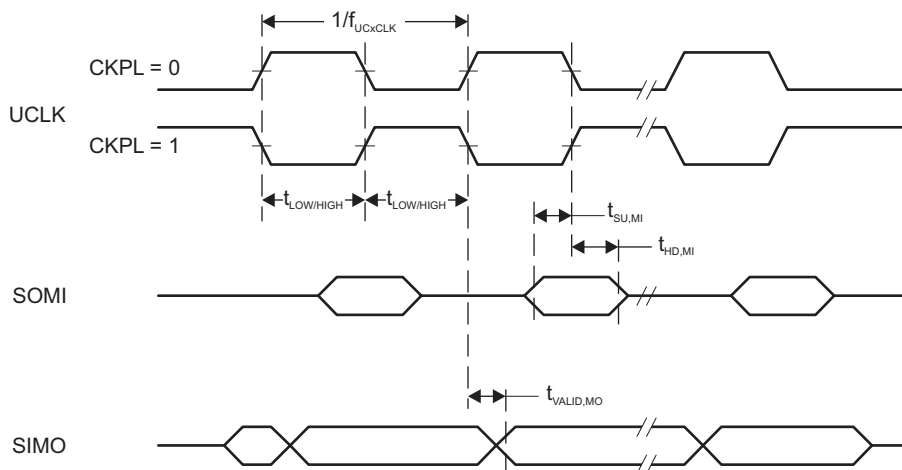
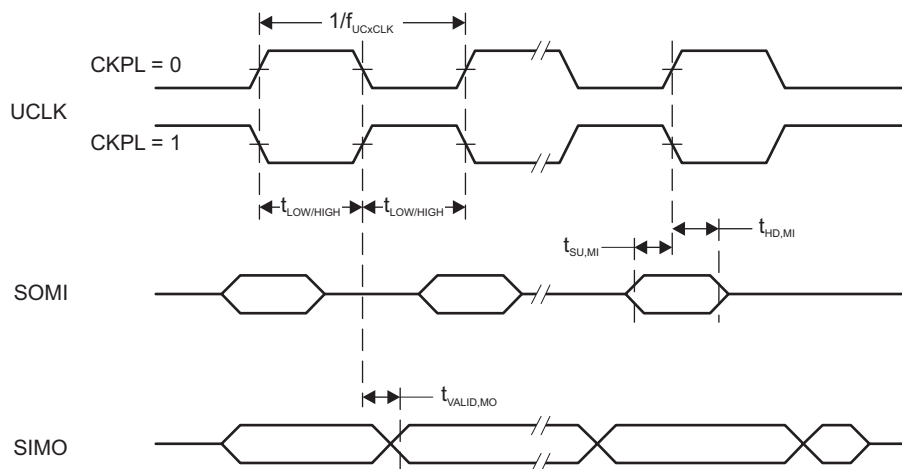

Figure 5-12. SPI Master Mode, CKPH = 0
Figure 5-13. SPI Master Mode, CKPH = 1
- (1)  $f_{UCxCLK} = 1/2t_{LO/HI}$  with  $t_{LO/HI} = \max(t_{VALID,MO}(eUSCI) + t_{SU,SI}(Slave), t_{SU,MI}(eUSCI) + t_{VALID,SO}(Slave))$ . For the slave parameters  $t_{SU,SI}(Slave)$  and  $t_{VALID,SO}(Slave)$ , see the SPI parameters of the attached slave.
- (2) Specifies the time to drive the next valid data to the SIMO output after the output changing UCLK clock edge. Refer to the timing diagrams in Figure 5-12 and Figure 5-13.
- (3) Specifies how long data on the SIMO output is valid after the output changing UCLK clock edge. Negative values indicate that the data on the SIMO output can become invalid before the output changing clock edge observed on UCLK. Refer to the timing diagrams in Figure 5-12 and Figure 5-13.